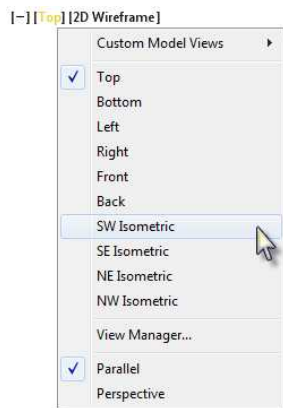

FIGURE 16.4: Select the Southwest Isometric view from the in-canvas viewport control's View Controls menu.
5. Using the in-canvas viewport controls, click the View Controls menu, currently displayed as [Top], and choose SW Isometric, as shown in Figure 16.4.